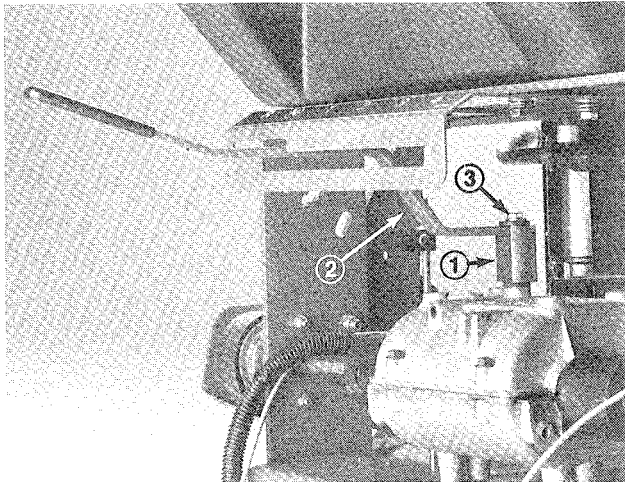

Figure 3
2. Insert shift lever thru slot in control panel and align mounting hole in lever with mounting block on transmission. Secure lever to transmission with 1/4-28 x 2" lg. capscrew and plain washer. Torque capscrew to 100-125 in - lb (Fig. 3).